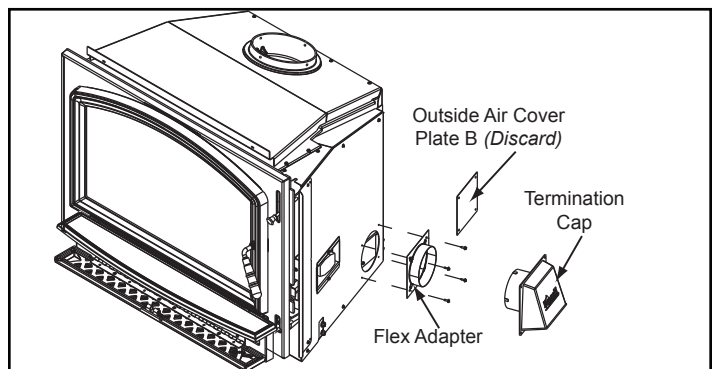

Figure 20.2
1. Remove the outside air cover plate B on outer can and discard. **Figure 20.2.**
Figure 20.2 shows a vertical installation and also how to create an optional 30° elbow installation.